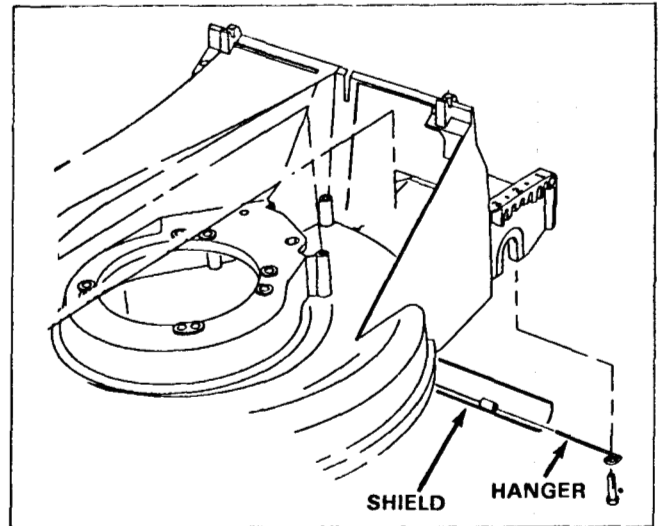

Figure 24
5. Position the safety shield components as shown in Figure 24, and secure the safety shield and endcaps with the two flanged head capscrews. Tighten all endcap capscrews.